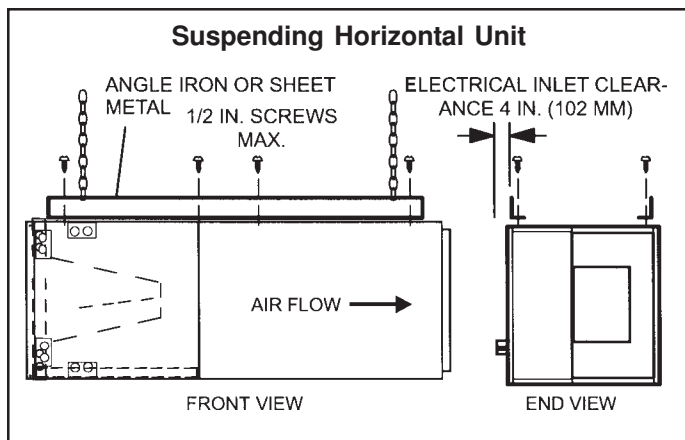

Figure 2
5. If the unit is suspended, the entire length of the cabinet must be supported. If you use a chain or strap, use a piece of angle iron or sheet metal attached to the unit (either above or below) to support the length of the cabinet. Use securing screws no longer than 1/2 inch to avoid damaging the coil or filter. See Figure 2. Use sheet metal screws to connect the return and supply air plenums as required.